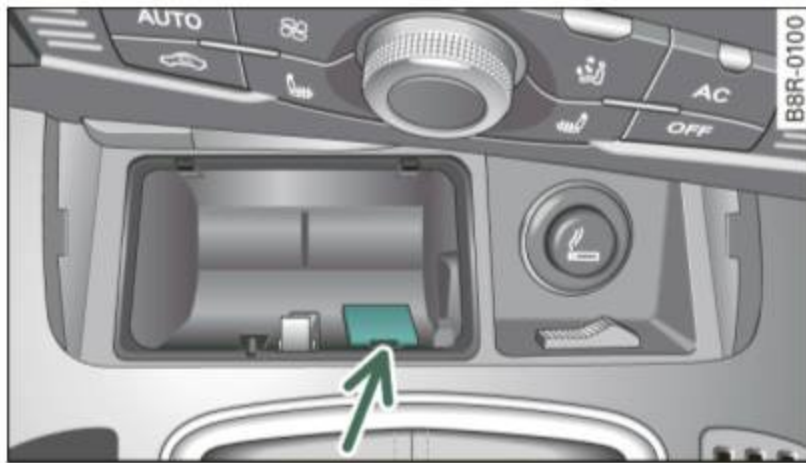

Fig. 152 Emergency release for selector lever
- You now have access to a bolt. Using a screwdriver or similar, press the bolt down and hold it down ⇒ fig. 152.